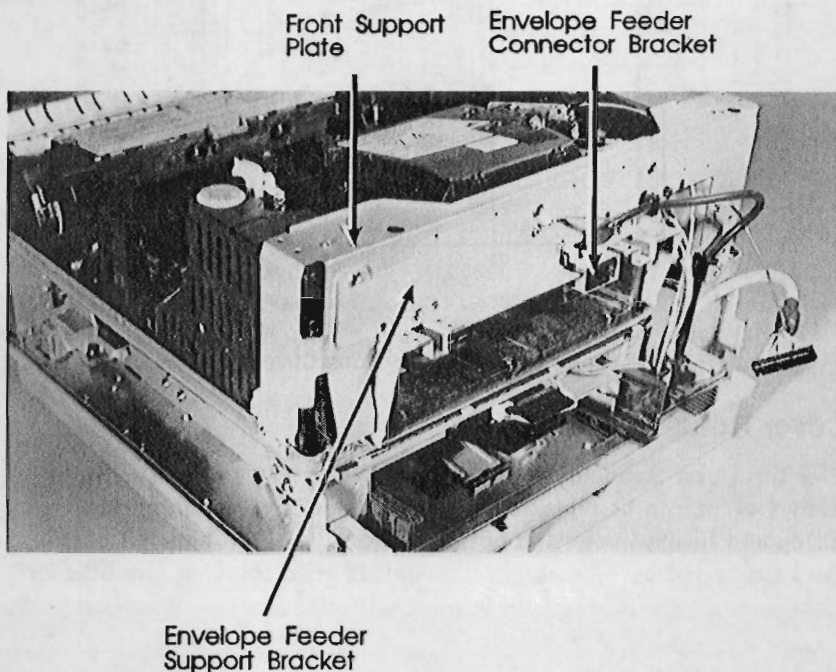

Figure 6-12. HP 33459 Front Support Plate and Brackets
2. Free the envelope feeder cable from its restraint (see Figure 6-12).
3. Remove the (2) screws that attach the envelope feeder connector bracket.
4. Remove the (2) shoulder screws that attach the envelope feeder connector, and (2) screw from the grounding lugs.
5. Remove the (5) screws that attach the envelope feeder support bracket.